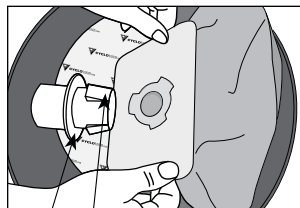

figure 19
3. Install the new bag, ensuring the tabs on the bag adaptor are aligned with the slots in the bag collar (**figure 19**).